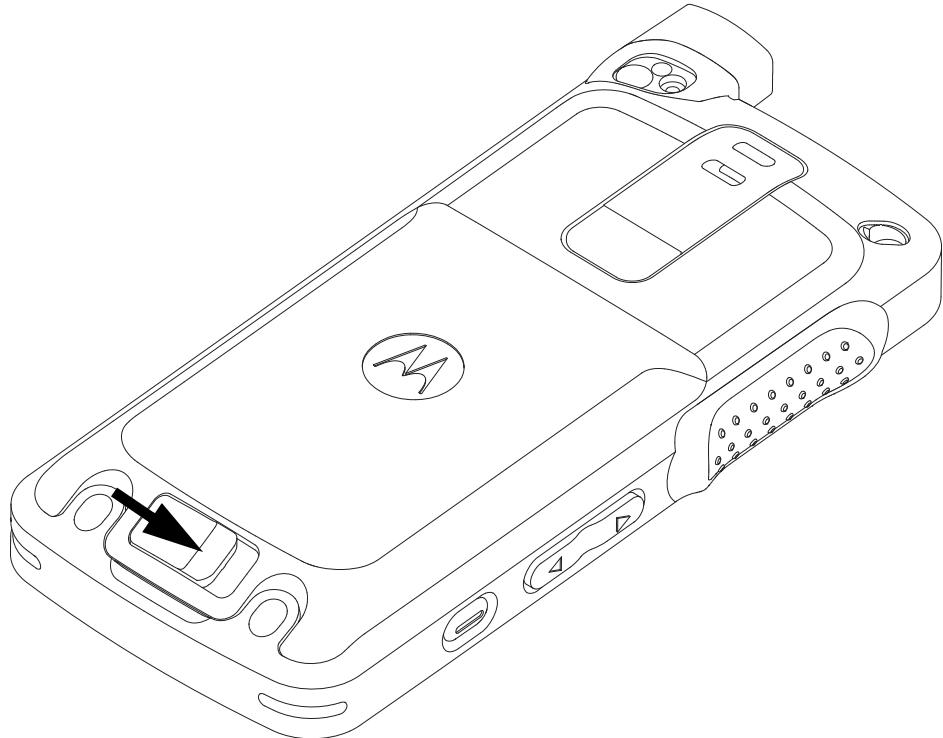

Figure 5-4. Unlatching battery door
1. Remove the battery door from the back housing by unlocking the latch as shown in Figure 5-4.